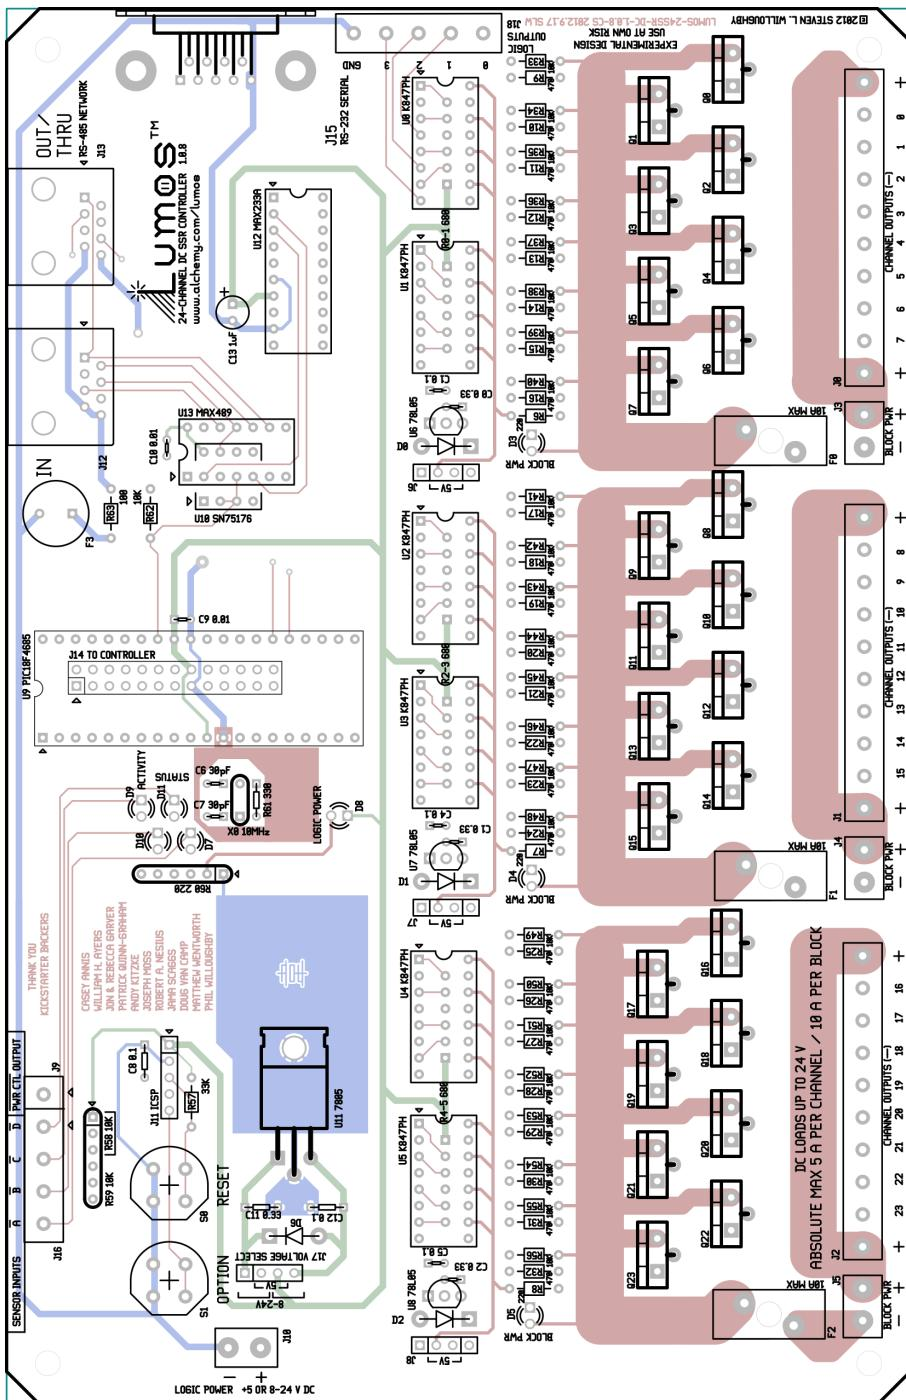
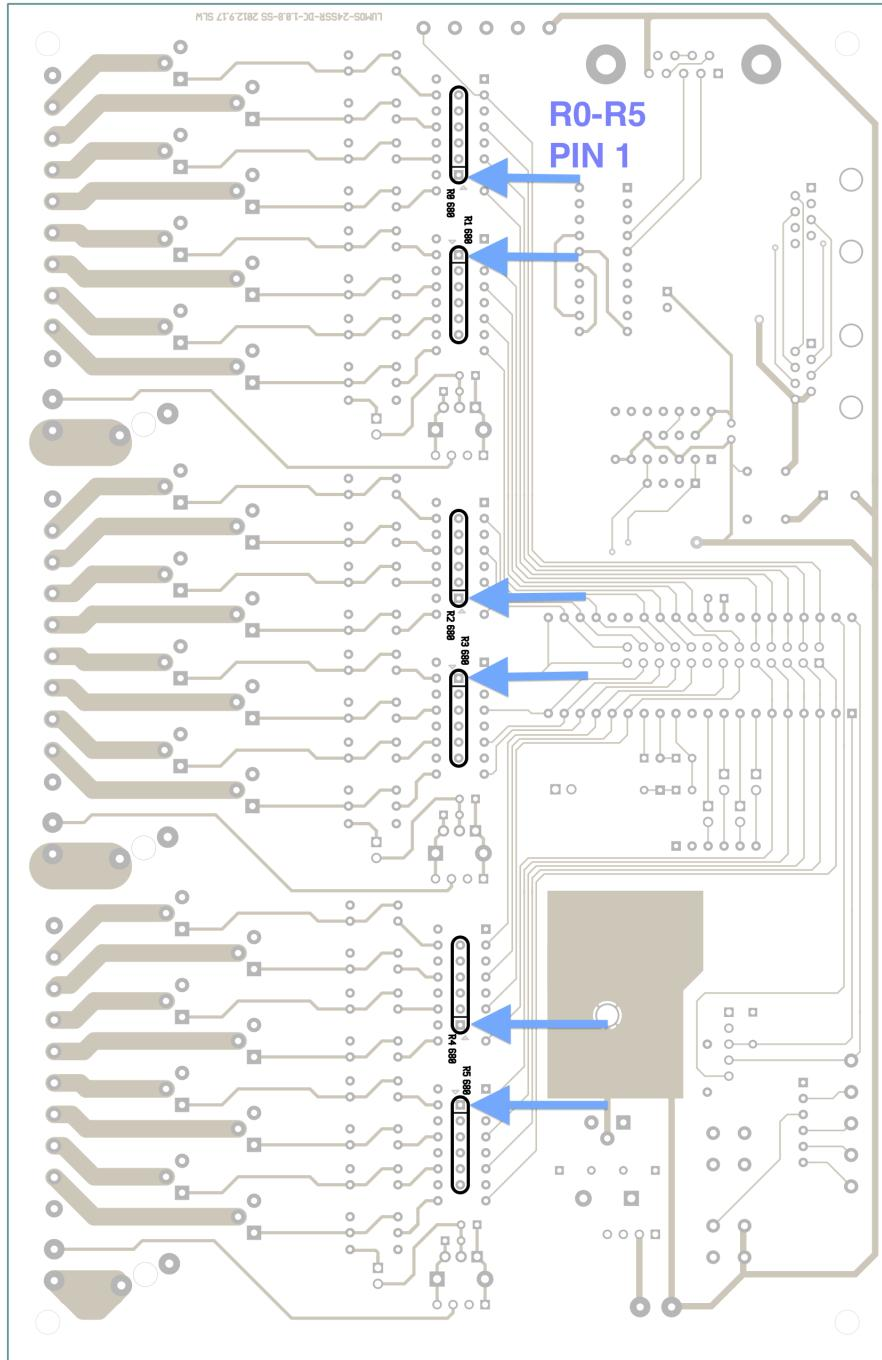

Figure 5.1: Lumos Board Parts Placement Diagram
Figure 5.2: Lumos Board Parts Placement (Reverse Side)
Refer to Figure 5.1 throughout these instructions to see where the components are located on the PCB. The locations are also labeled on the PCB itself.
1. Install (3) $220\ \Omega$ resistors in positions R6–R8 as marked on the PCB and Figure 5.1. These have the color bands “red-red-brown” marking them. Push them all the way until flush with the PCB.
4. Repeat steps 1–3 to install (24) $470\ \Omega$ resistors (“yellow-violet-brown”) at R9–R32.
5. Repeat steps 1–3 to install (24) 10 K resistors (“brown-black-orange”) at R33–R56.
6. In the same fashion, install and solder (3) $0.33\ \mu\text{F}$ capacitors into positions marked C0–C2.
7. Install and solder (3) $0.1\ \mu\text{F}$ capacitors into positions C3–C5. **NOTE: Capacitor C3 is located nearest to C0 on the PCB. On board versions through 1.0.8, this is mis-labeled as “C1.”**
8. Install (3) 1N4004 diodes at D0–D2. **Note: These parts will not function if inserted the wrong direction.** Each diode has a stripe on one end. This end is inserted into the hole marked by the straight line (cathode) drawn on the PCB. The unmarked end goes into the hole marked by the triangle (anode). Solder into place.
9. Install (3) green LEDs at D3–D5. **Note: These must be inserted in the correct orientation.** The longer lead (anode) goes into the square hole, while the shorter lead (cathode) goes into the round hole. Solder into place.
12. Install (1) $680\ \Omega$ resistor network *on the bottom (solder) side* of the board at R0 (the row of six holes *inside* U0). **Note the correct position of R0.** The square hole on the PCB marks where pin 1 of R0 should be inserted. Pin 1 is marked with a dot on R0 itself. See Figure 5.2.